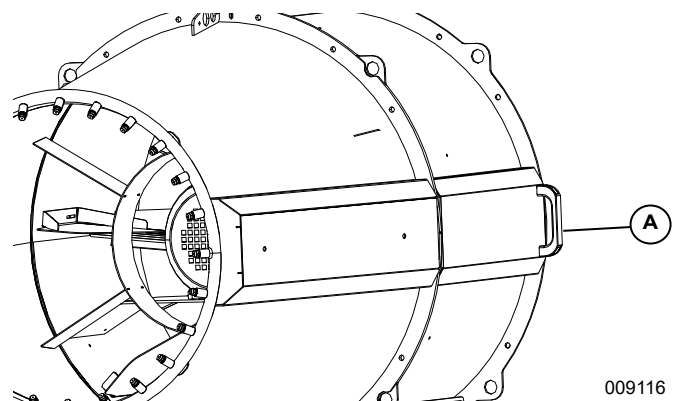

Figure 3-6. Manual rotation
- See Figure 3-6 Use handle (A) to rotate blower.